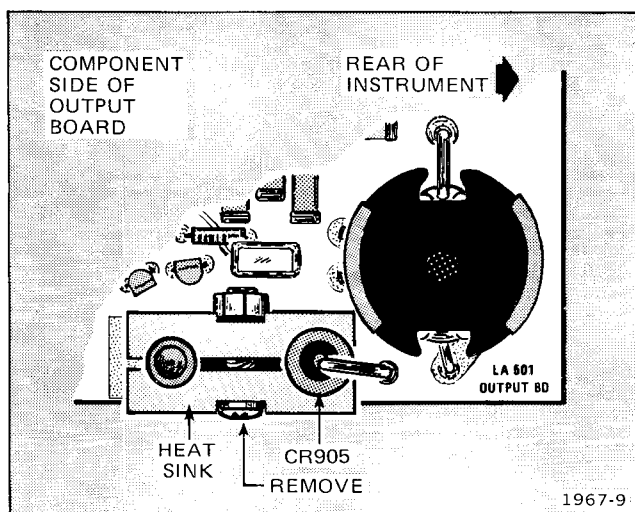

Figure 4-4. Location of CR905 heat sink on the Output circuit board.
5. Remove screw that passes through heat sink on power diode CR905. Remove heat sink. See Figure 4-4.